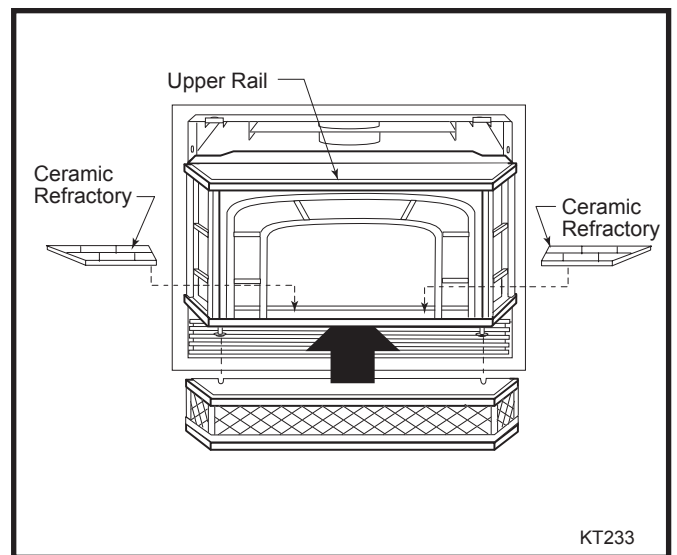

Fig. 2 Cast window panel shown, Steel window mounts in the same manner.
3. Place two (2) ceramic refractory pieces into window assembly. (Fig. 2) **CAUTION:** The ceramic refractory pieces are very fragile, handle with care!
4. Hang the window panel on the firebox front by engaging its upper rail over the back of the top of the firebox opening frame. (Fig. 2)